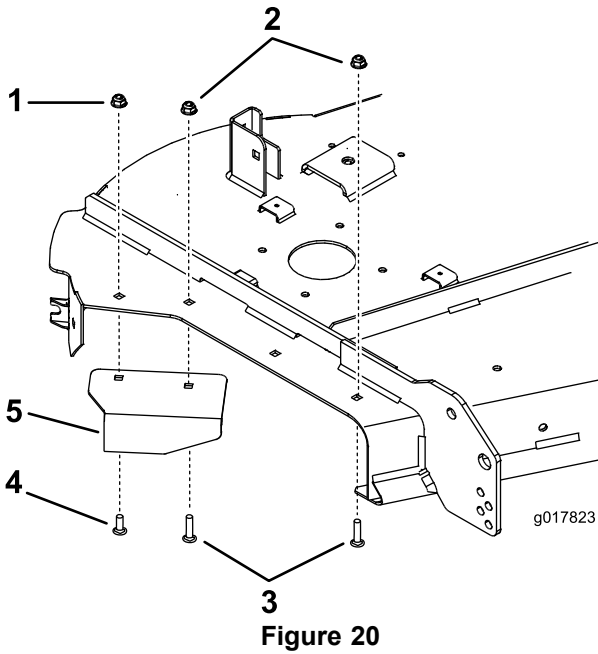

Figure 20
- Install the new baffle with a carriage bolt (5/16 x 1 inch) and nut (5/16 inch) from the previously removed baffle (Figure 20). Use a new bolt (5/16 x 1-3/8 inches) and flange nut (5/16 inch) to secure one side of the baffle (Figure 20).
- Install a carriage bolt and flange nut into the front hole shown in Figure 20.